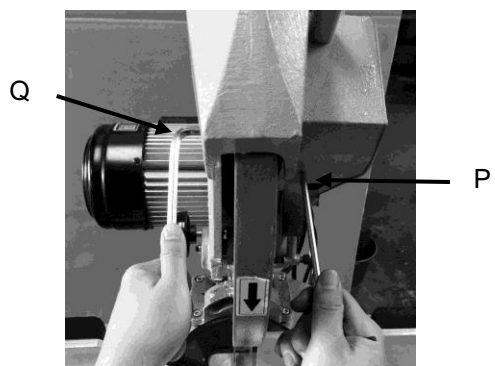
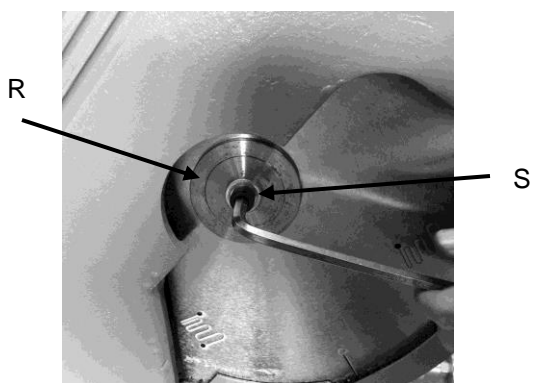

Fig 16
Fig 17
3. Block the drive shaft from its end by fitting a 6 mm setscrew P (Fig 16) wrench inside the center hole of the belt guard and loosen the left screw S (Fig 17) with the 8 mm hex wrench Q (Fig 16).
4. Loosen and remove screw S and remove outer flange R (Fig 17).